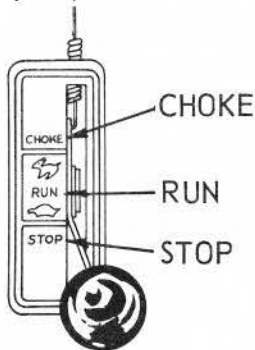

FIG. 3
14. After engine starts, move throttle control lever to "run" position, refer to Fig. 3.